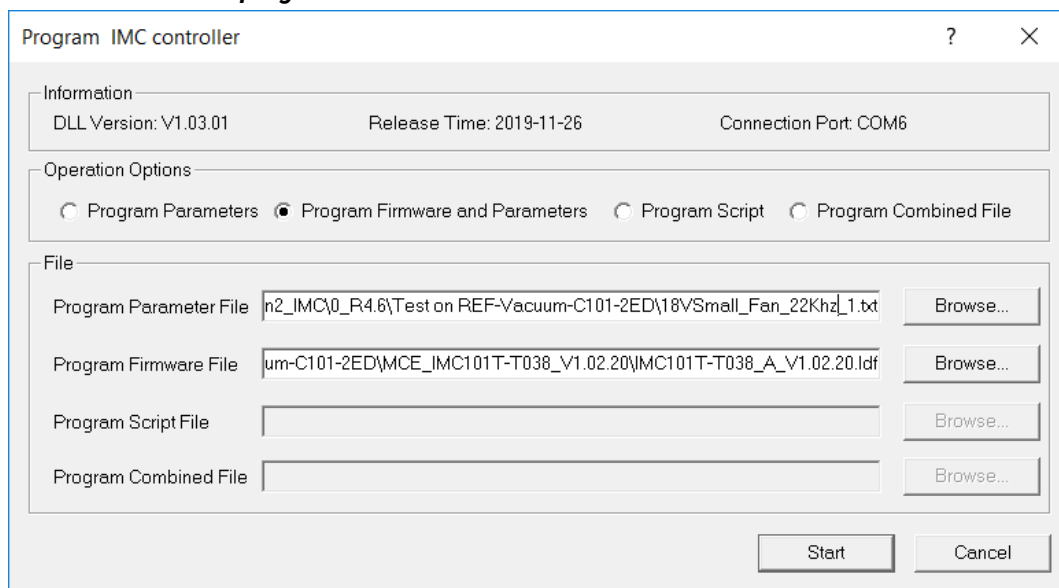

Figure 12 MCEDesigner warning message
9. *In case of blank IC: Use the following steps to program the firmware and the parameters file into the internal Flash memory of iMOTION™ Control IC: Click on system page, click “Tools” > “Programmer” and select “Program Firmware and Parameters,” shown as Figure 12 below. The encrypted firmware is available in “IMC101T MCE Software Package,” regarding the parameters file, browse and select the .txt file in step 3.*